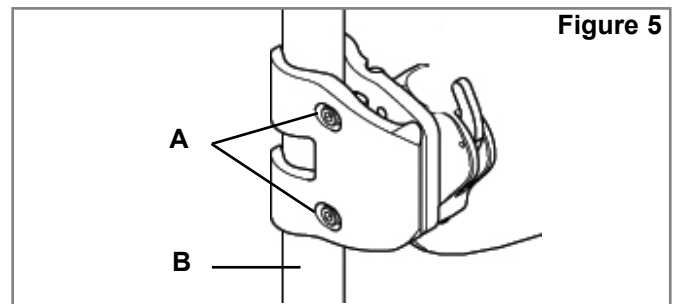

Figure 5
3. Attach the hardware receivers. (Fig. 5)
- a. Loosen the clamp screws (A) with the enclosed 4mm hex key. **NOTE**– For large tube diameters, clamp screws may have to be removed completely.
- b. Attach and align receiver to the wheelchair back canes (B).
- c. Hand tighten clamp screws (A). **NOTE**– Receivers may require additional lateral adjustment to ensure proper alignment.